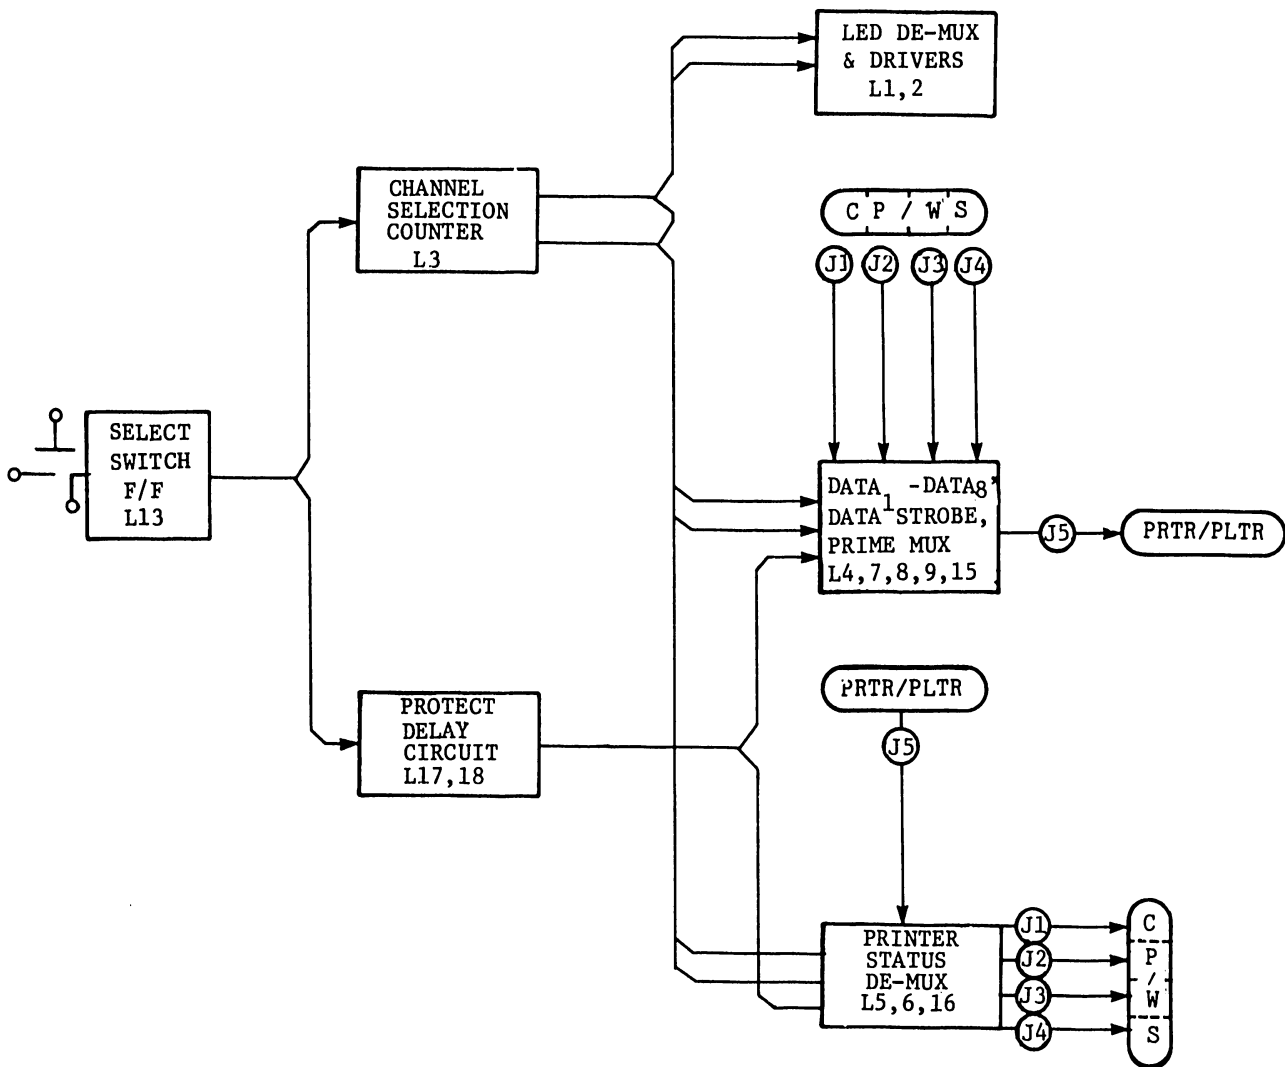

FIGURE 4-1 BLOCK DIAGRAM
4.2 POWER-ON (Reference FIGURE 4-1.)
4.3 CHANNEL-SELECTION (Reference FIGURE 4-1.)
4.4 PROTECT-DELAY (Reference FIGURE 4-1.)